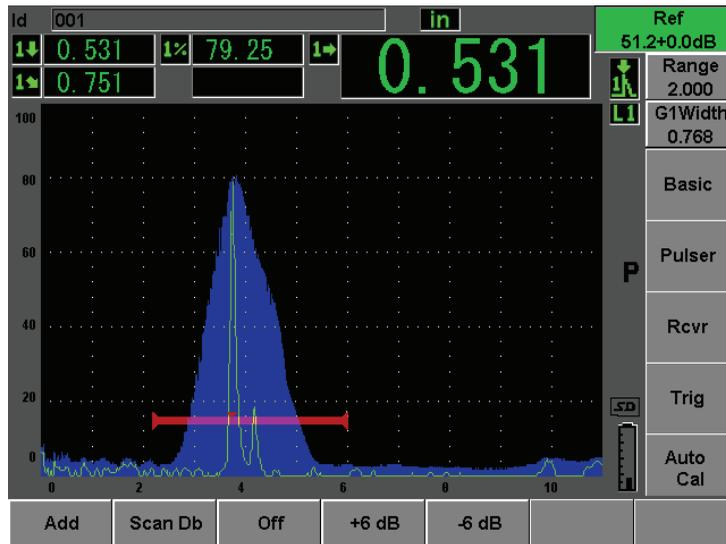

Figure 10-25 Setting the reference gain
5. Use the **Add, Scan Db, +6 dB, -6 dB, and Off** parameters to make scanning gain adjustments once the reference gain (**Ref**) is active (see Figure 10-25 on page 183). For more information on these functions, please see section 6.3 on page 113.